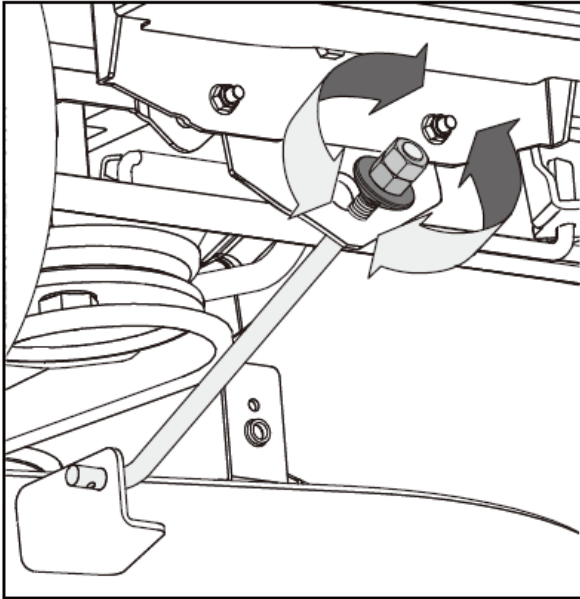

Fig.24
3. If front-to-back adjustment is needed, after loosening the outer lock nut, turn the inner adjustment nut clockwise to raise or counterclockwise to lower the front of the cutting deck. (Fig. 24)
5. Without moving the inner adjustment nut, re-tighten the outer lock nut to secure the inner adjustment nut in place. (Fig. 24)